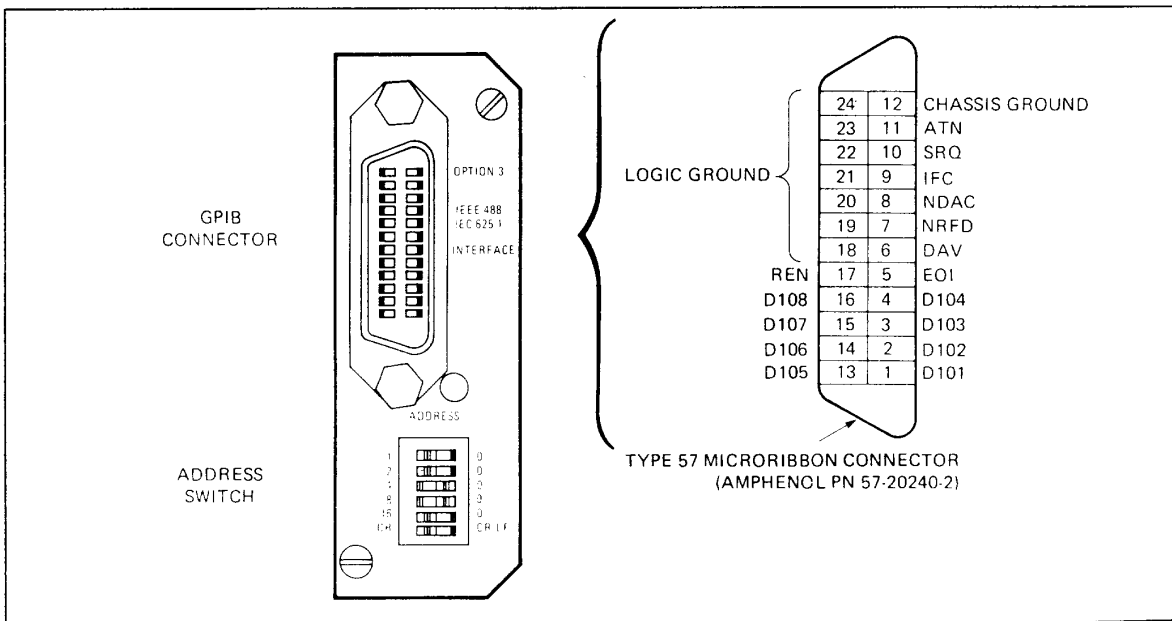

Figure 2-5. Option 3 Panel (Address Switch and GPIB Connector)
- Interconnection with Controller. To connect the Model 560A with the GPIB controller, connect a 1-, 2-, or 4-meter (as required) GPIB interconnect cable between the Option 3 interface connector on the 560A rear panel (Figure 2-5) and a like connector on the controller (refer to controller instruction manual to locate this connector).
Addressing the Model 560A to talk and listen is accomplished from the rear panel. The Option 3 panel (Figure 2-5), located on the rear of the Model 560A, contains a vertical row of six white ON/OFF rocker-type switches. The top five switches are used to assign the talk/listen address (talk and listen addresses use the same address number); the bottom switch is used for data delimiting (paragraph 2-4.6).
The five Option 3 address switches are arranged from top to bottom in a binary format, the least significant bit (LSB) located at the top. As shown in Figure 2-5, there are two sets of numbers assigned to switches within the ADDRESS switch row.